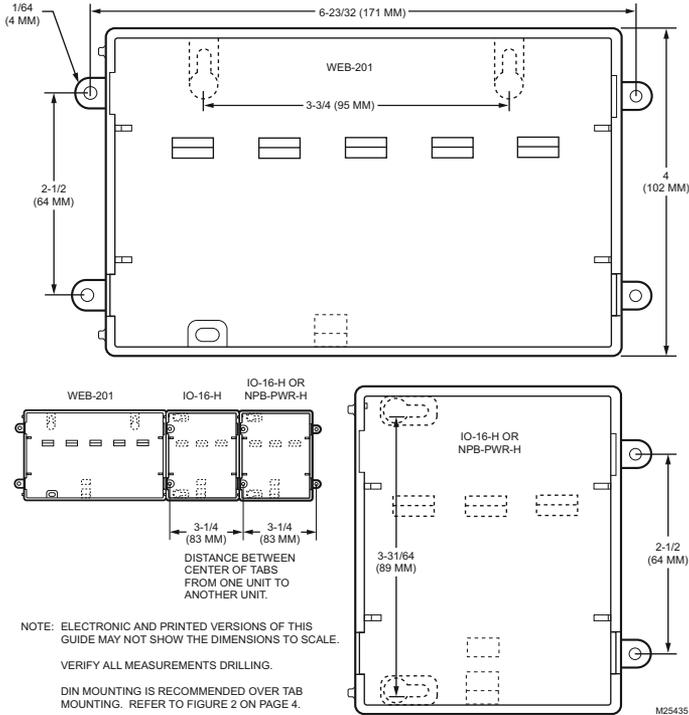

Fig. 1. Tab Mounting Dimensions in Inches (mm).
- If DIN rail mounting is impractical, use screws in mounting tabs on the controller then on the module. Mounting tab dimensions are shown in Fig. 1.